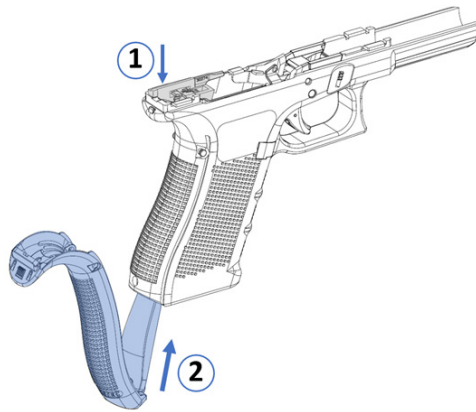

Figure 53: Backstrap mounting steps and direction.
1. Press the trigger housing against the frame. At the same time, insert the movable part of the backstrap into the cavity of the frame. This cavity is located next to the magazine well (Figure 53).